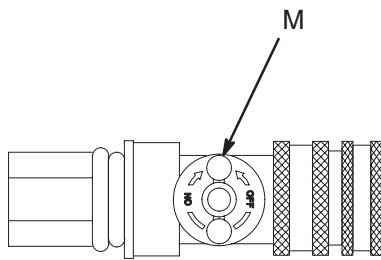

Fig. 9
5. Air Control Valve (M) on end of turbine hose controls both atomizing air and pressure in spray gun cup. See Fig. 9. Adjust air control valve as needed.